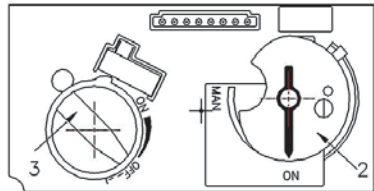
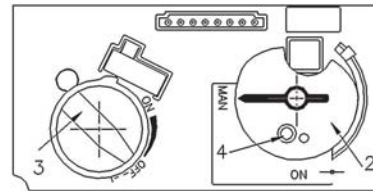
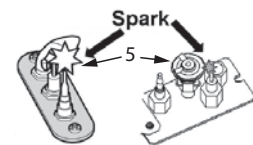

Fig 1
Fig 2
Fig 3
2. SET ON/OFF SWITCH (1) TO "OFF" POSITION.
- Wait five (5) minutes to clear out any gas, then smell for gas, including near the floor. If you smell gas, STOP! Follow "B" in the safety information above on this label. If you don't smell gas, go to the next step.
3. **AUTOMATIC IGNITION (fig. 1):** Locate the pilot (fig. 3.) inside of firebox at Left Hand side.
- ON/OFF switch (1) in ON position, MAN-knob (2) in ON position; set Flame Adjustment knob (3) to lowest setting (U);
- When the pilot is lit, the Flame Adjustment knob (3) will automatically rotate to the highest setting.
4. **MANUAL IGNITION (fig. 2):** With the window off, locate the pilot (fig. 3) inside of firebox at Left Hand side;
- ON/OFF switch (1) in ON position, MAN-knob (2) in MAN position;
- Set Flame Adjustment knob (3) to the lowest setting (U);
- Push down the metallic core (4) with a pen or similar instrument; this will establish the pilot gas flow;
- Light gas at the pilot (5) with a match;
- Continue holding down metal core (4) for about 10 seconds; after release, pilot should remain lit;
- If the pilot will not stay lit after several tries, turn the gas control knob (3) to "OFF" (U) and call your local service technician or gas supplier.